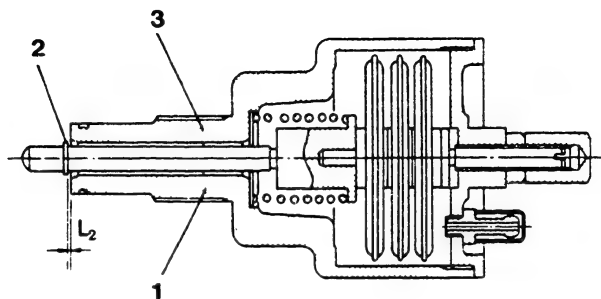

Fig. 171 Assembled dimensions of aneroid compensator
Measure the distance (dimension L_2) between the snapping assembled with pushrod (1) and the housing. (Fig. 171)